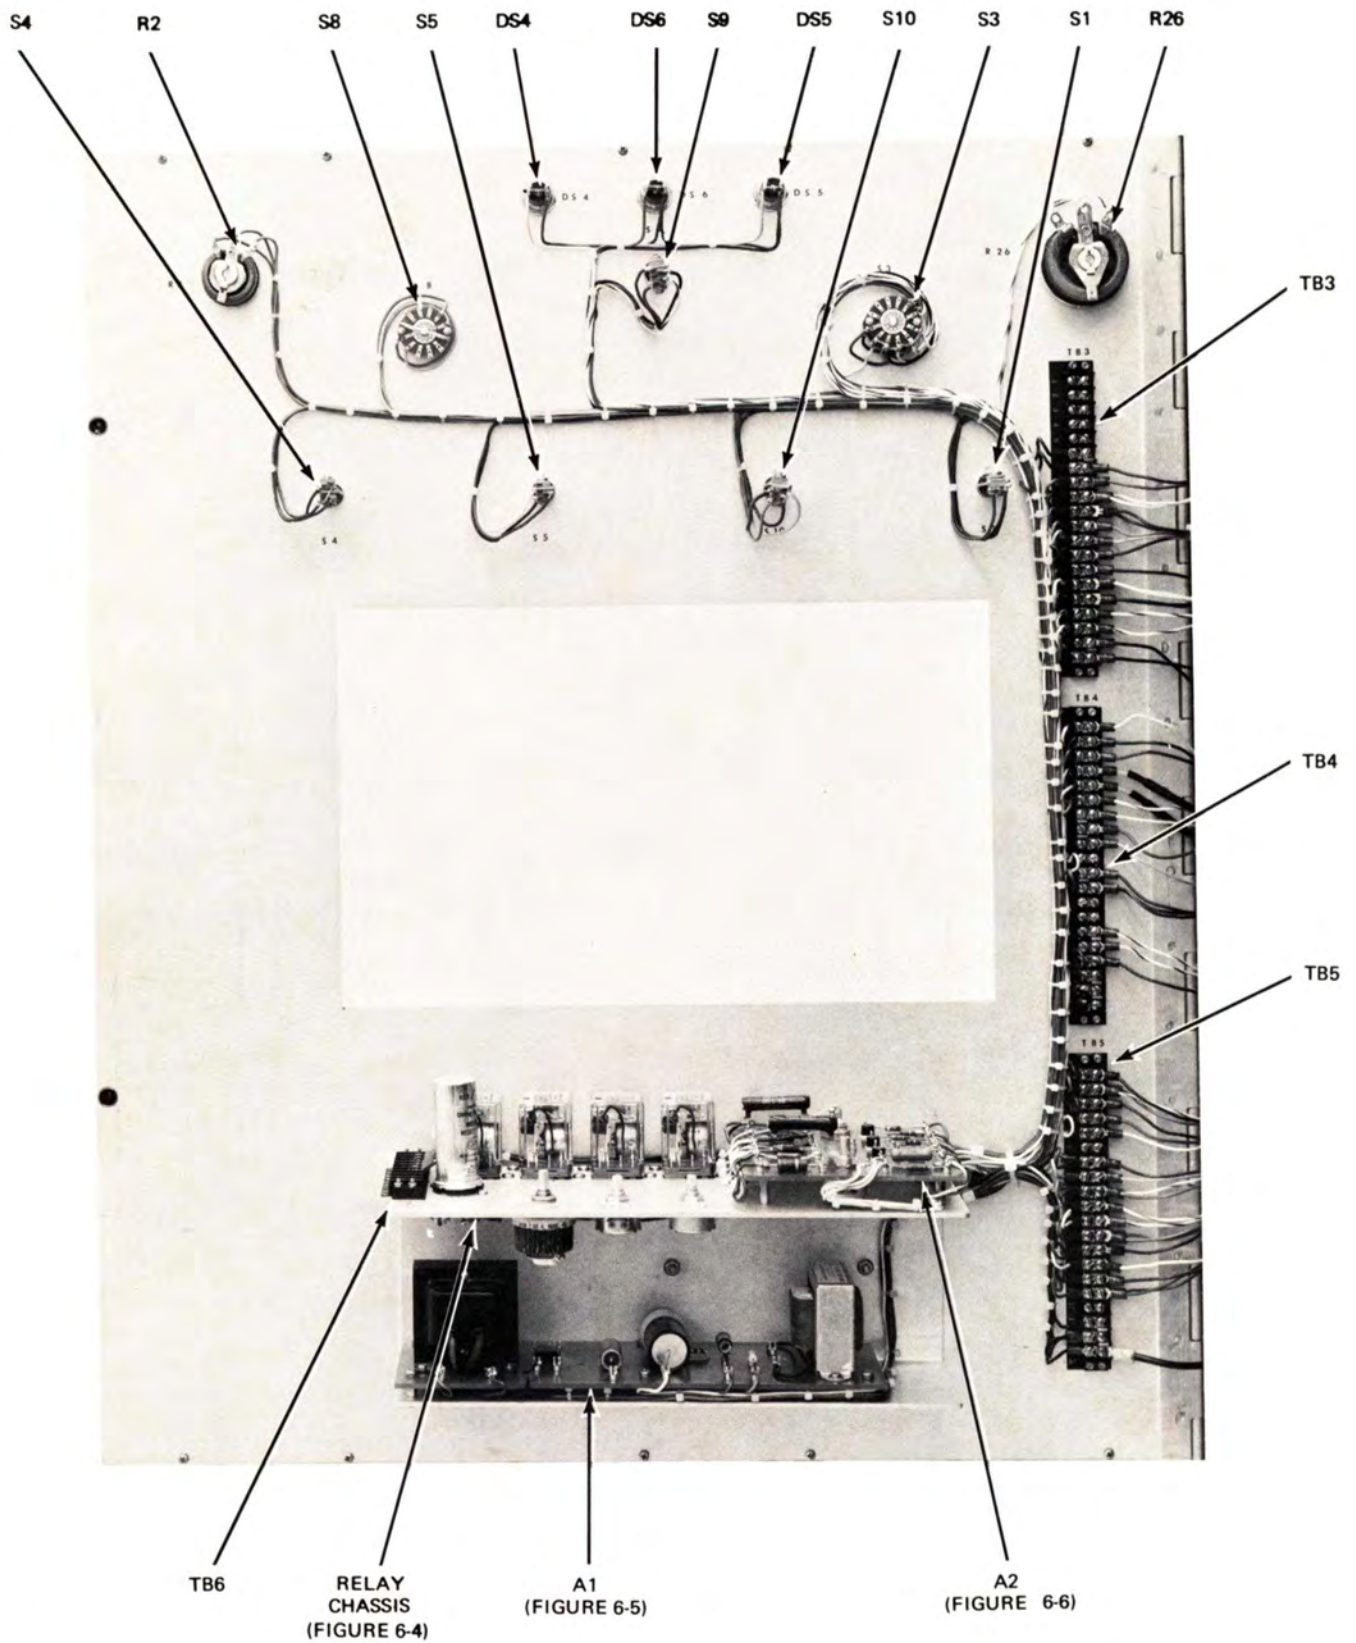

Figure 6-2. Access Panel Rear View
- c. Open front access door and connect negative lead of 110 vdc power supply to TB6-6 and connect positive lead to TB6-2. (See figure 6-2.) Energize power supply.